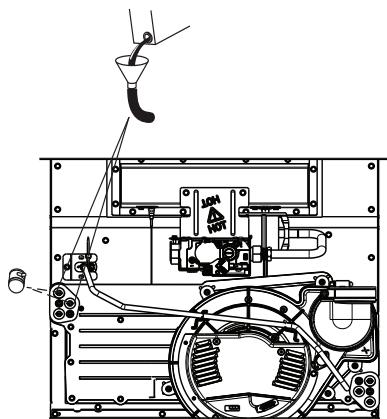

Fig. 25 – Winterizing Furnace
4. Remove one of the unused rubber plugs in the port on the collector box opposite the condensate trap (see Fig. 25).